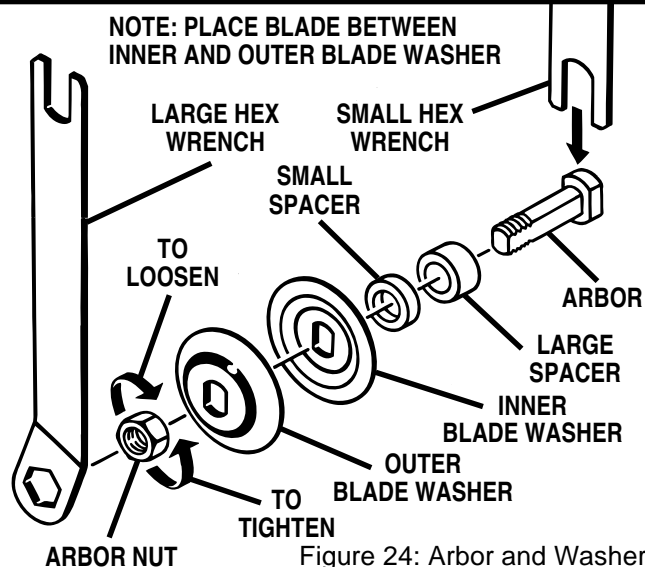

Figure 24: Arbor and Washer
5. Place the open end of the small hex wrench into the slot beside the blade. The wrench will fit over two flats on the arbor (blade shaft). See Figure 24.